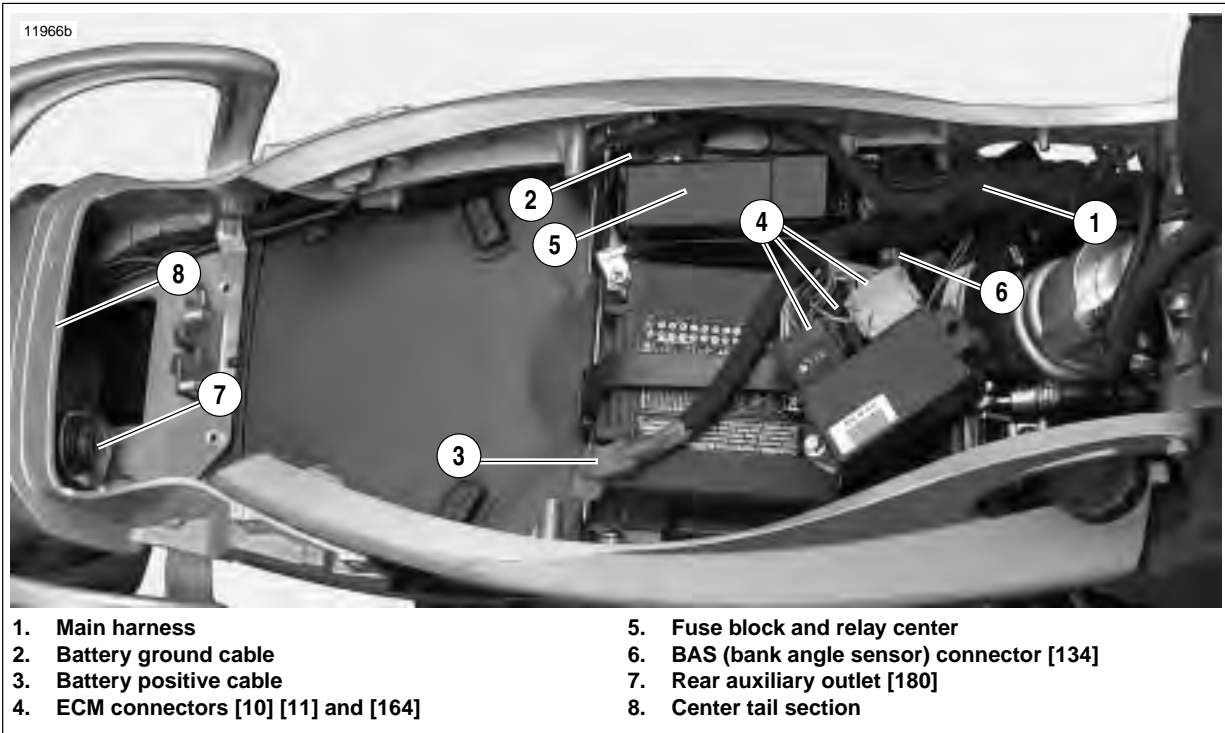

Figure 7-88. Main Harness and Electrical Connectors Under Seat
See Figure 7-88. Always align harness when installing in the frame and tail section. Align the harness so both ECM wire bundles, the dyno loop and the main ground all face upward so when they are installed the harness will not be twisted.
25. See Figure 7-88. Connect: